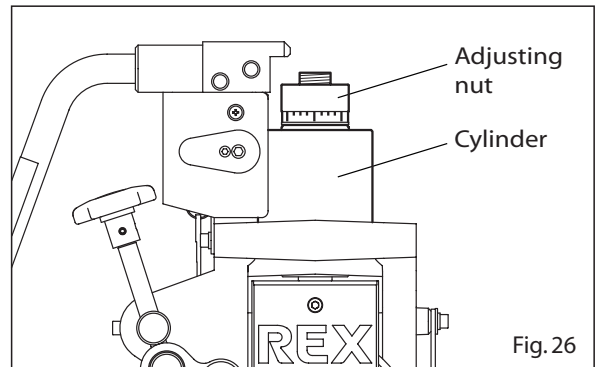

Fig. 26
- 6) As soon as the adjusting nut touches the upper surface of the cylinder, switch the machine OFF and stop pumping. (Fig. 26)